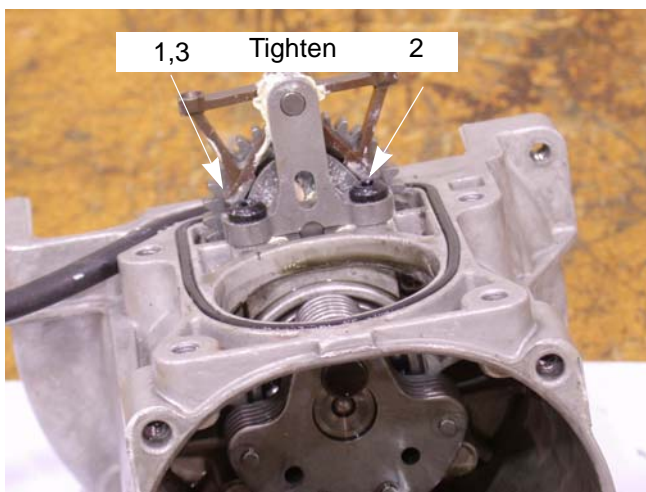

Figure 8.17
4. Apply a thread locking compound such as Loctite 266 to the cam bracket screws. Tighten the screws to a torque of 30 - 35 in lbs (3 - 4 Nm). When torquing the screws, torque the first screw to 15 in lbs. Torque the second screw all the way. Finish torquing the first screw. See Figure 8.17.